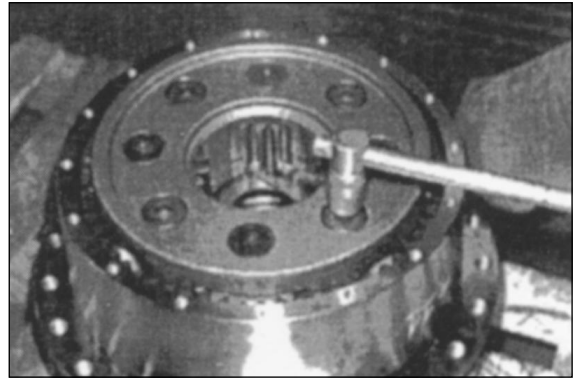

Figure 92
1. Install seal to jig. Figure 92.